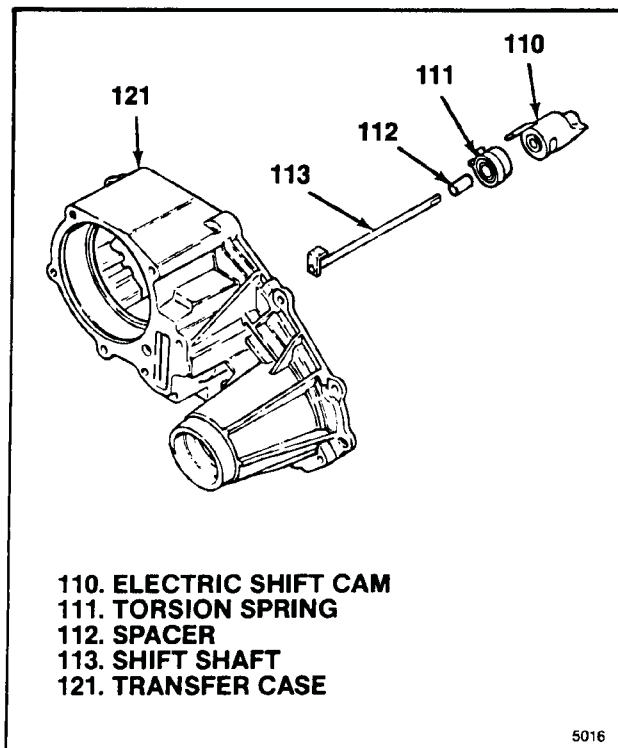
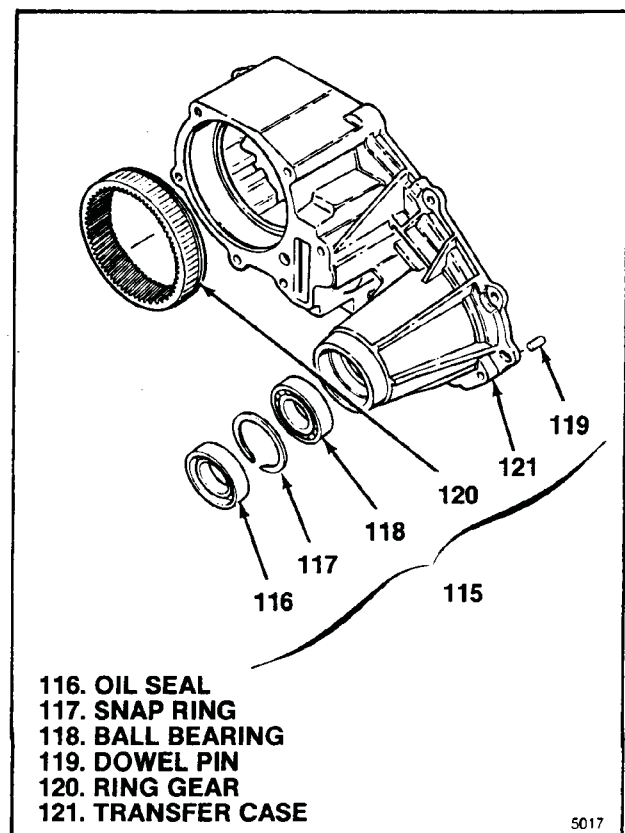

Figure 3-13. Electric Shift Cam Parts
Figure 3-14. Transfer Case Assembly
**3-18. REMOVAL OF SHIFT CAM PARTS (ELECTRIC SHIFT TRANSFER CASE ONLY).** On electric shift units, remove the following (see figure 3-13):
- Slide electric shift cam (110) off shift shaft (113).
- Clamp retainer end of shift shaft (113) in soft-jawed vise. Keeping fingers away from spring ends, pry torsion spring (111) out of engagement with shaft drive tang using a screwdriver. Remove torsion spring and spacer from shift shaft.
**3-19. DISASSEMBLY OF TRANSFER CASE ASSEMBLY.** Disassemble as follows (see figure 3-14):
- Pull oil seal (116).
- Remove retaining ring (117) and pull ball bearing (118).
- Remove dowel pins (119) from transfer case (121) only if they are loose or damaged.
- Press ring gear (120) out of transfer case (121) only if ring gear must be replaced.